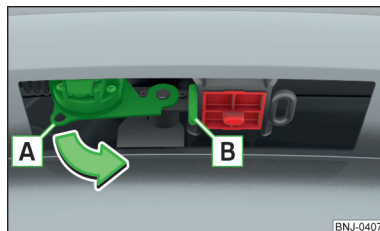

Fig. 242
- Grip the 13-pin socket at point **A** and swing out in the direction of the arrow » Fig. 242.
- Open the socket cap and insert the plug of the trailer (accessories) into the 13-pin socket **A** » Fig. 242. (If the trailer / accessories have a 7-pin connector, use a corresponding adapter from the ŠKODA Original Accessories).